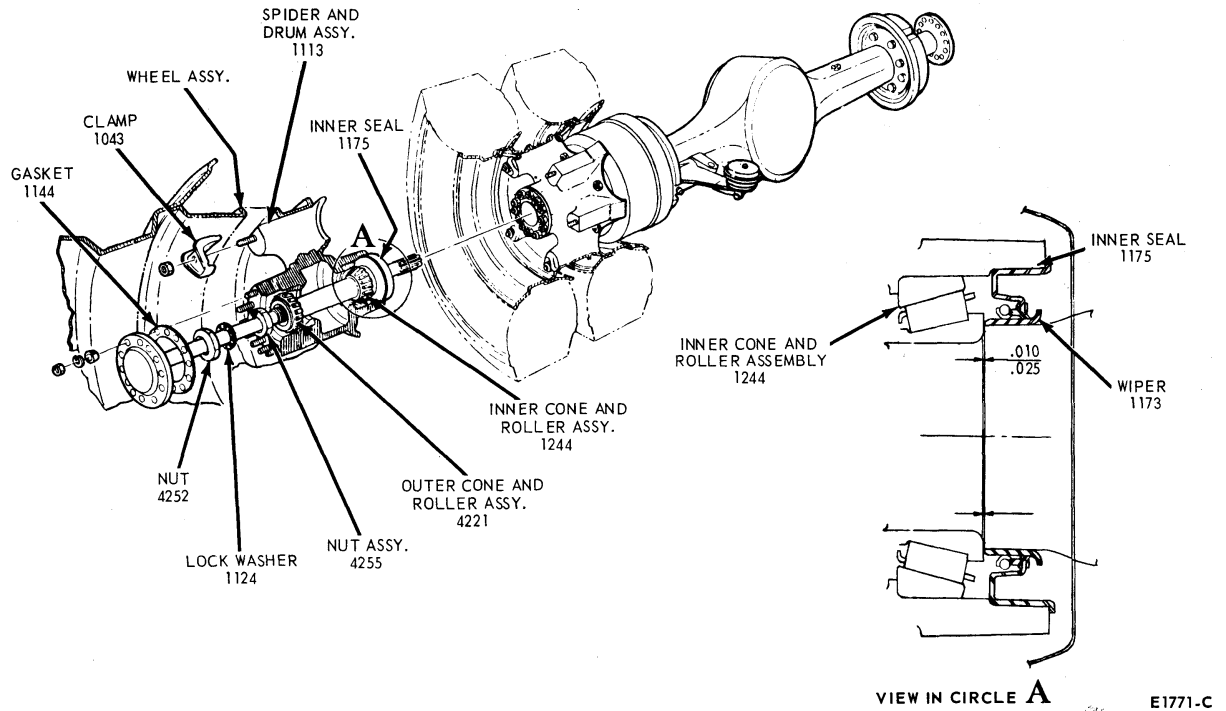
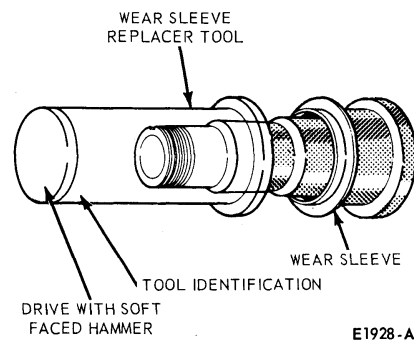

FIG. 2 Typical Rear Wheel Hub—Full-Floating Axle—500-9000 Series
FIG. 3 Tool Application of Wear Sleeve (Wiper) Installation
2. Remove the retaining lock ring (Fig. 3).
The wheel bearings are packed with wheel bearing lubricant (C1AZ-19590-B) to provide initial lubrication until axle lubricant flows into the wheel hubs and bearings during vehicle operation. On these axles the wheel hub is vented through the axle housing vent. The seal assembly (500-9000 Series) mounts on the wheel hub and seals on a wear sleeve (wiper) which is installed on the axle housing tube (Fig. 2).
The wear sleeves (500-9000 Series) must be installed squarely on the axle housing using the appropriate tools (Fig. 3). Do not use heat on the wear sleeves to facilitate installation. Use the proper tool as shown in fig. 3. The sleeves are designed with flanges to eliminate the possibility of installing the sleeves backwards. Although preservative has been applied to the wear sleeve prior to packaging, a light oil (SAE-10 or its equivalent) should be applied to the wear sleeve to facilitate assembly of the sleeve to the axle housing. After installation of the wear sleeve, the clearance between the end of the wear sleeve and inner wheel bearing shoulder should be 0.010 to 0.025 inches (Fig. 2).
face and slip the wear sleeve off the axle housing. Thoroughly clean the spindle of the axle housing. Then, position a new **proper size** wear sleeve squarely to the axle housing spindle and, with the use of proper driving tool (Fig. 3), and a soft faced hammer, drive the wear sleeve on the axle housing spindle until it seats evenly against the shoulder of the seal journal of the spindle. A light coating of S.A.E. 10 oil should be applied to the inner surface of the wear sleeve to facilitate assembly of the wear sleeve to axle housing.